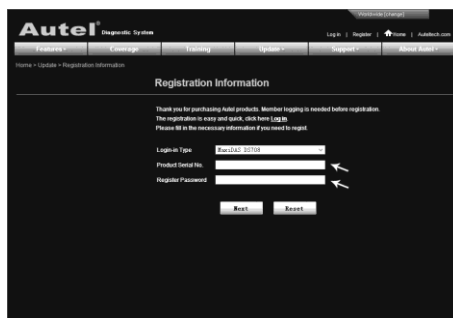

Figure 7.2
4. Put in the Product Serial No. and Register Password, and click on **Next**. (Figure 7.2)